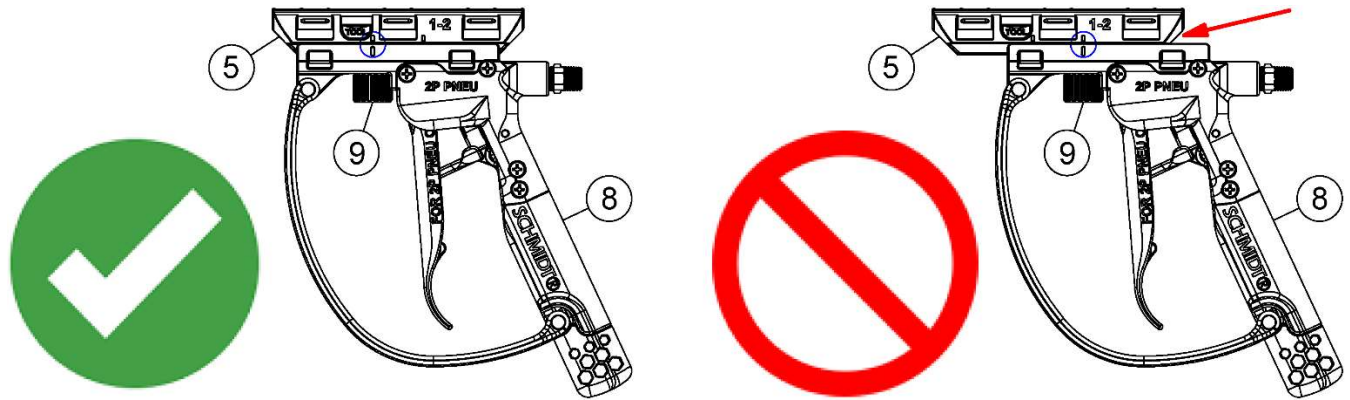

Figure 3.4
- 3.3.3 Slide the G3 Trigger Deadman (#8) onto the rail (#5) and line up the hash mark located on the side of the G3 Trigger Deadman (#8) above the locking knob (#9) with the forward most hash mark on the G3 Swivel Strap Adapter (#5). (See Figure 3.4)
- 4.1.3 Secure the G3 Trigger Deadman (#8) to the G3 Swivel Strap Adapter rail (#5) if not previously attached (See Figure 3.4).
- 4.2.3 Secure the G3 Trigger Deadman (#8) to the BAABS G3 Swivel Strap Adapter rail (#5) if not previously attached. See Figure 3.4